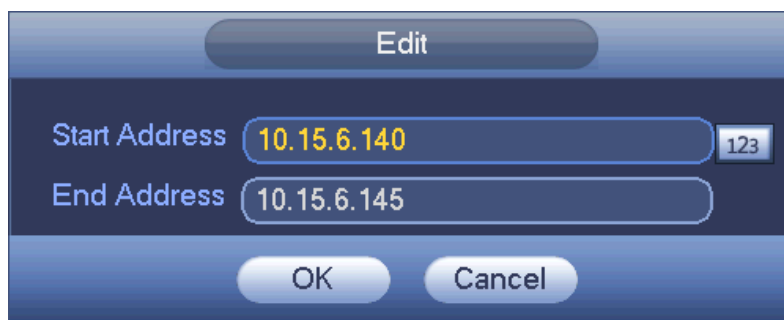

Figure 4-92
- Edit: Click it to edit start address and end address. See Figure 4-92. System can check the IP address validity after the edit operation and implement IPv6 optimization.